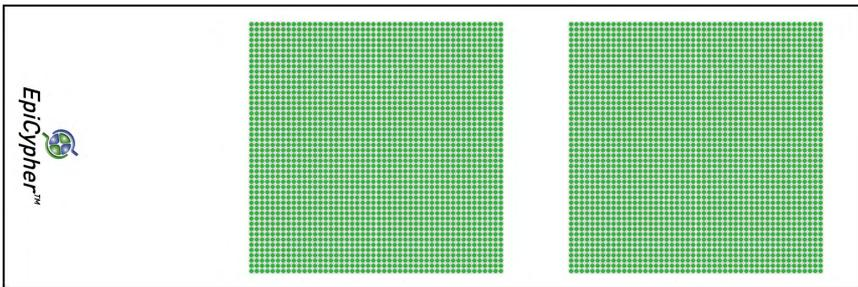

Figure 3. Peptide Placement on EpiTitan™ Histone Peptide Array.
Please refer to the Excel spreadsheet “EpiCypher Annotated Peptide List v3.xls” available on our website for details on the exact layout of each peptide. This figure does not represent the exact placement of each of the sub-arrays on the slide: see Figure 3 on page 8.
6. Pipet 200 µl of the antibody solution prepared in Step 4 directly over the printed peptides (see Figure 3).
7. Carefully overlay the slide with a coverslip, avoiding the introduction of air bubbles (see Figure 3).
6. Pipet $200 \mu\text{l}$ of protein antibody solution prepared in Step 4 directly over the printed peptides (see Figure 3).
7. For analysis purposes, the array slide is divided into 4 sections (see Figure 2). Beginning with the cursor in the upper left spot on sub-array A, overlay the grid on Section 1 of the sub-array as depicted in Figure 3.
11. Drag the 48 x 24 grid down the array to cover Section 2 (Figure 3). If necessary, further align the grid as described in Step 7.